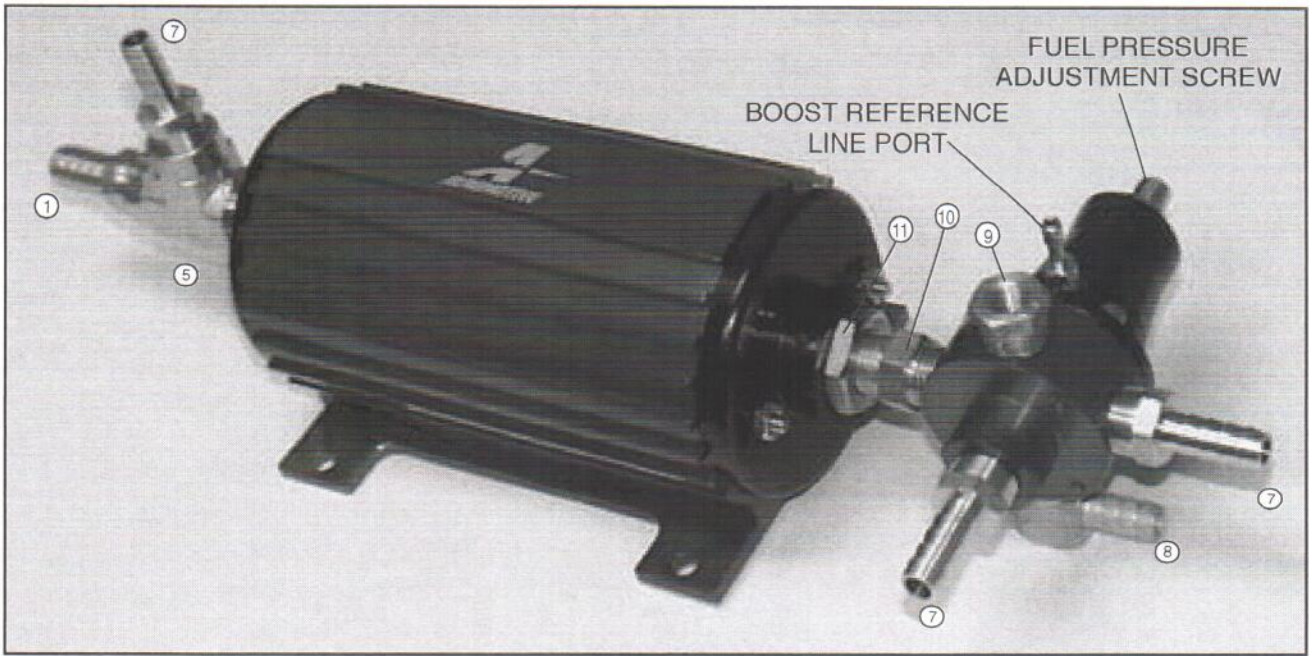

FIGURE F4
Note: Your competition fuel pump should be assembled as shown in Figure F4. The fuel pump and regulator are shipped connected together but they can be separated and mounted separately if there are space limitations. Make sure all fittings are tight. Refer to the fitting list on page 20. Use the supplied 1/2" and 3/8" hose to replace the stock fuel line from the fuel tank forward. Your new fuel system will look like Figure F3 when you are finished with this section.
6. Fitting #9 in figure F4 is for a fuel pressure gauge. ATI strongly recommends the used of a fuel pressure gauge to allow for tuning and to also monitor your engine. If you do not install a gauge in this fitting, **be sure to install a plug or fuel will spray out of the regulator when the fuel pump pressurizes.**